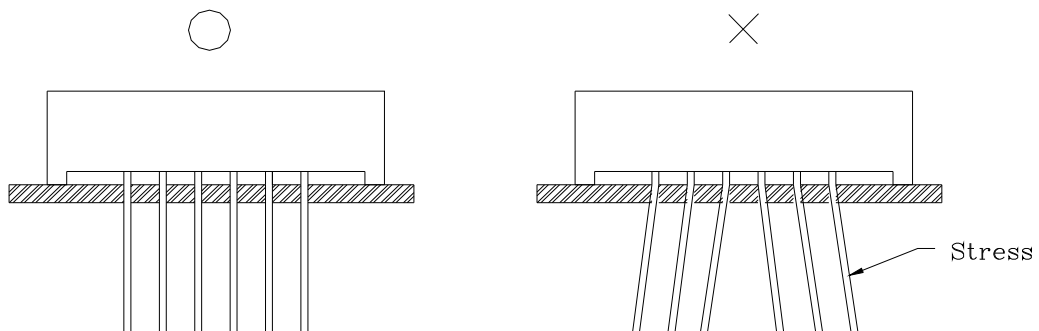

Fig.6
3) Form the PIN of ensure alignment between the PIN and the hole on board, so that stress against the Display is prevented. (Fig.6)